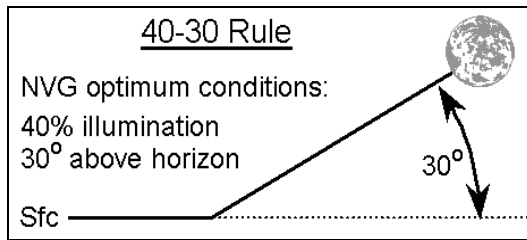

Figure 22 – The 40-30 Rule
- e. The 40-30 rule (figure 22).